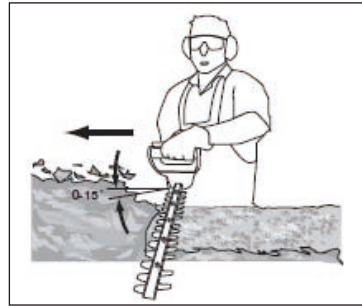

Fig 9
6. After cutting the sides proceed to the top (Fig. 9). Try to keep the cutting device angled at approximately 15° to the cutting surface.